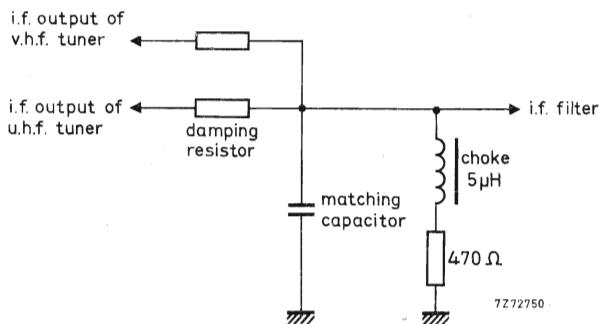

Fig. 8.
The tuner needs a d.c. path from the i.f. output terminal (10) to earth, preferably via a choke of approx. $5\mu\text{H}$ outside the tuner (Fig. 8). Where the tuner is used in combination with a v.h.f. tuner, this choke can be common for both tuners; a resistor in series with the choke can make ineffective the i.f. output circuit of the switched-off tuner. For damping the i.f. output circuit and matching the i.f. output impedance of the tuner to the i.f. amplifier, a series resistor and a parallel capacitor as shown in Fig. 8 should be used.